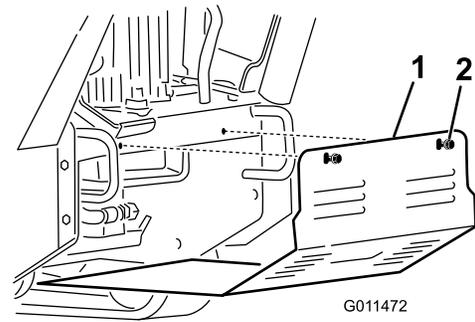

Figure 27
2. Loosen the 2 bolts securing the bottom shield sequentially until the shield is free (Figure 27).
2. Slide the bottom shield into the machine so that it rests on all 4 tabs (Figure 27).